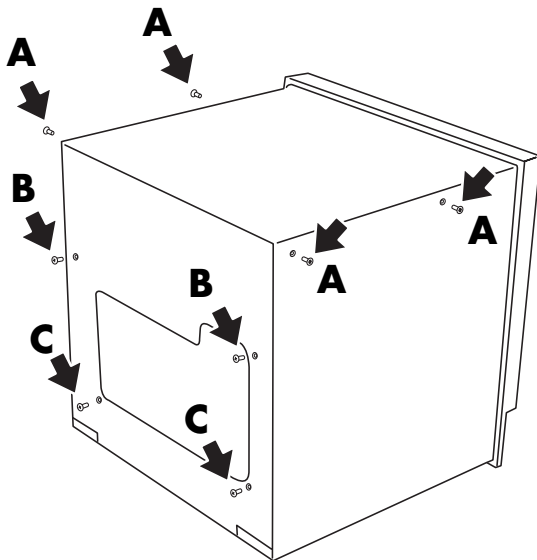

Figure 11.1a Remove cover fixings
2. Release the combined top/rear cover by removing the four countersunk screws marked ‘A’ in figure 11.1a, and the pan-head screws (‘B’ and ‘C’). All these fixings should be retained for use in re-assembly. For current instruments, screws ‘A’ are T8 Torx headed screws. Previous versions used cross-head screws. For previous versions, items ‘C’ were two-part plastic rivets.